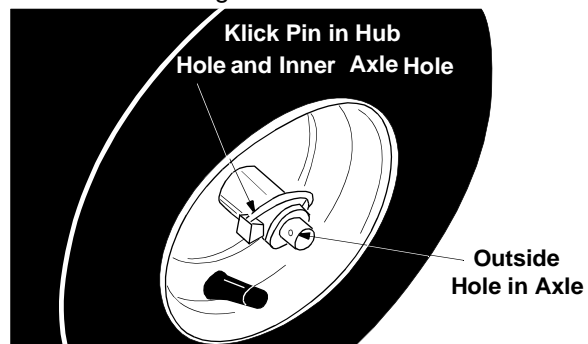

Figure 18
The wheels may be adjusted for two different methods of operation. The adjustment is made by placing the click pins in one of two different holes on the right side of the unit. See Figure 18.
- Both Wheels Driving—Rotate wheel assembly to align hole in hub with inner hole on axle shaft. Insert click pin in hole. Outer axle shaft hole should be visible. See Figure 18.